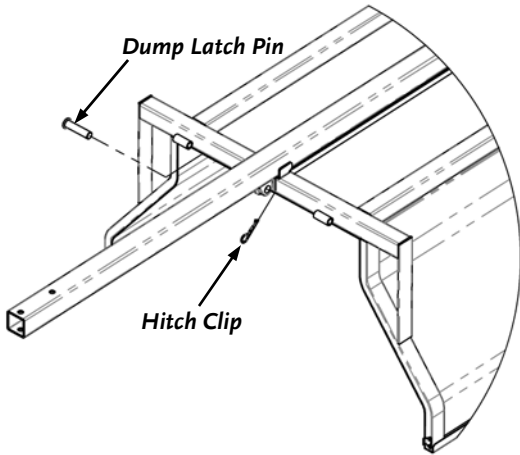

Figure 8
6. Insert the Dump Latch Pin through the Dump Bracket on the Tow Beam and the Dump Bracket on the Bed and secure with a Hitch Clip (**Figure 8**).
Before performing the next step, assure that you inserted the Dump Bed Pin and installed the Hitch Clip (**Figure 8**) otherwise the Tow Bar may swing loose while turning the Trailer over.